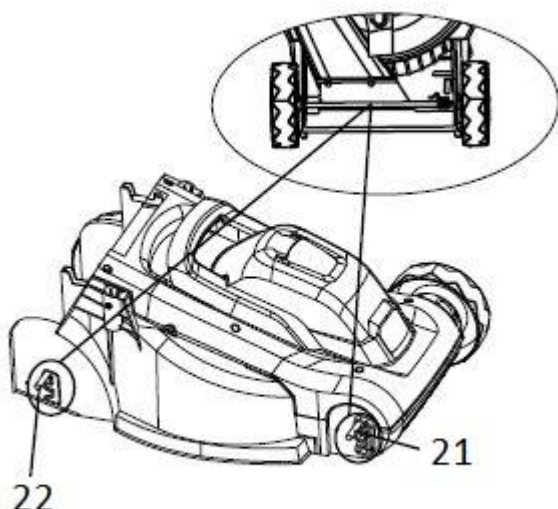

Fig. 5
21. Front axle } see Fig. 5
22. Rear axle } see Fig. 5
### (See Figure 5)